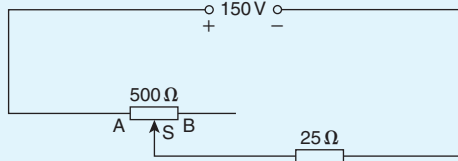

Figure 5.45
2. For the circuit shown in Fig. 5.45, calculate the current flowing in the  $25\ \Omega$  load and the voltage drop across the load when (a)  $AS$  is half of  $AB$ , and (b) point  $S$  coincides with point  $B$ . Is this a potentiometer or a rheostat?